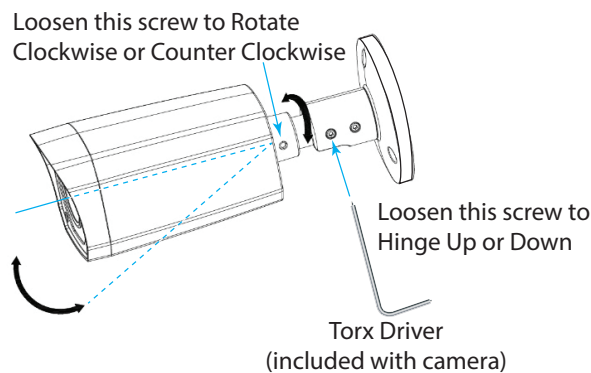

Fig. 2.6
12. Adjust the camera until the correct position is established (pointing at the ROI). You can pivot the mounting bracket around the one screw holding it in place. The set screws on the camera neck also allow it to be adjusted up, down, or rotated, see Fig. 2.6.